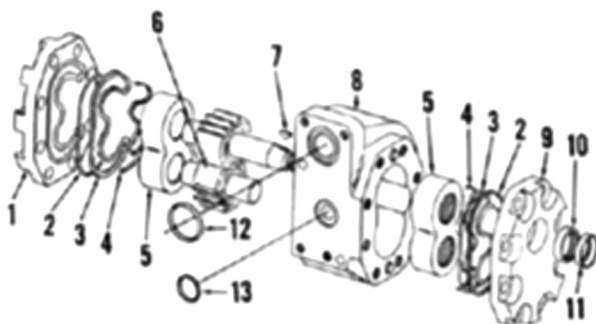

Fig. 29—Exploded view of Plessey hydraulic pump.
17. Tractors may be equipped with either Cessna (Fig. 28) or Plessey (Fig. 29) gear type pumps. A 12.5 gpm pump is used on Model 684 and a 13.0 gpm pump is used on Models 784, 884 and Hydro 84. A priority type flow divider takes approximately 2.5 gpm for the power steering and the balance is used for the draft and position controls on the hydraulic lift system and for the auxiliary control valves.
20. **OVERHAUL (PLESSEY).** With pump removed from MCV, proceed as follows: Remove pump drive gear and key, then unbolt and remove covers (1 and 9-Fig. 29) from body. Balance of disassembly will be obvious after an examination of unit.